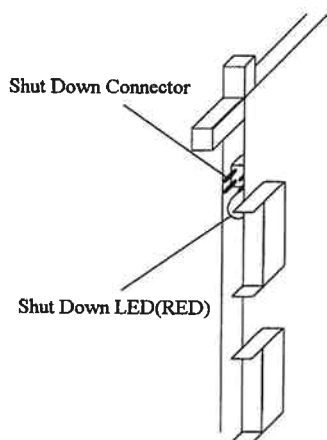

Fig. 3.4.8.2.2-8 Shut Down LED
- a. Disconnect the CH cables from the sub-edge connectors on the PCB referring to Table 3.4.8.2.2-3, Table 3.4.8.2.2-4, and Fig. 3.4.8.2.2-9.